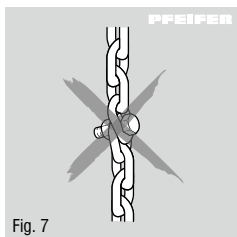

Fig. 7
- Do not put knots into the load chain, and do not join it with bolts, screws, screwdrivers or anything similar. Load chains that are permanently fitted into lifting gear must not be repaired (Fig. 7). The chains must not be twisted or extended.